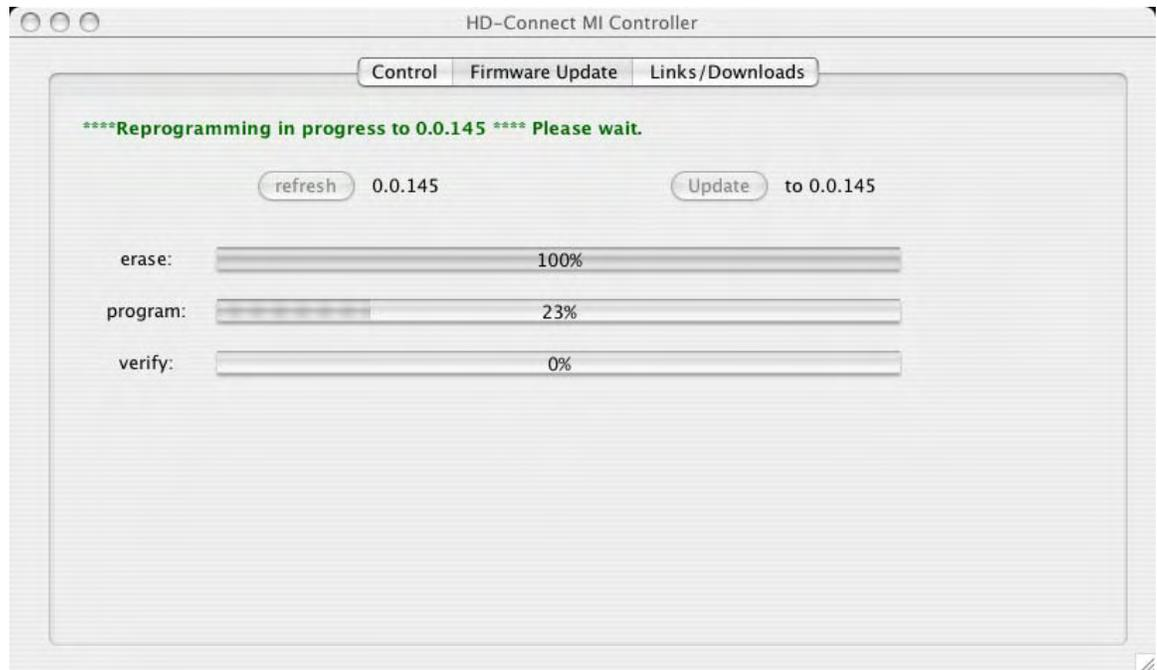

Figure 15 Mac Update Application
- 3) When you open the application, it should appear as in Figure 15. Use the exact same procedure for PC to update the box. Click the “Refresh” button, then click the “Update” button. The update should take around three to five minutes. During that time DO NOT unplug the box.